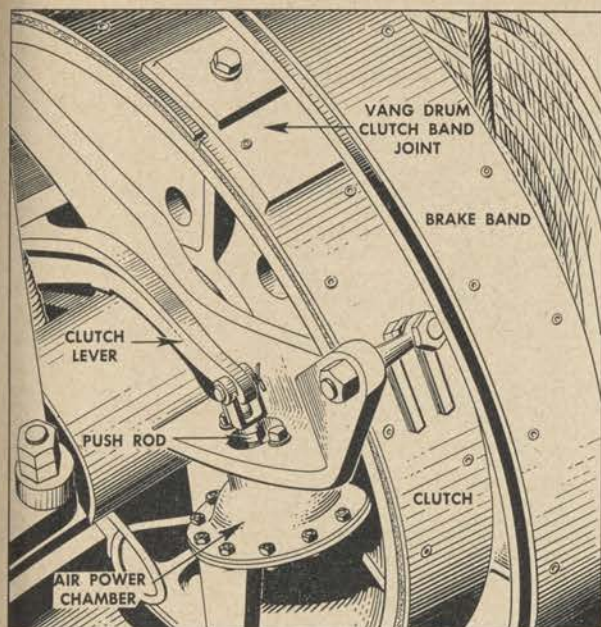

Figure 247. Vang drum assembly.
f. *TWIN DRUMS.* (1) *Description.* On the twin drums, the friction clutch and the band brake are both mounted on the outer end of each drum: at the right end of the right drum, and at the left end of the left drum. (See fig. 247.) The right twin drum is driven from the drum gear through the right drum clutch. The clutch band mechanism of the left drum and drum gear that drives the right drum are keyed to the same shaft and revolve together. The left drum is driven by this gear when the left drum is engaged.
(a) *Remove.* The twin drum clutch band is assembled in three sections. Mark sections for identification for assembly in same position. First remove bolts connecting the sections, and the pins from both the anchored end and the working end of the clutch band. Then remove adjustable positioning bolts with their supporting brackets. Remove each band segment independently away from rope drum. (See fig. 247.)